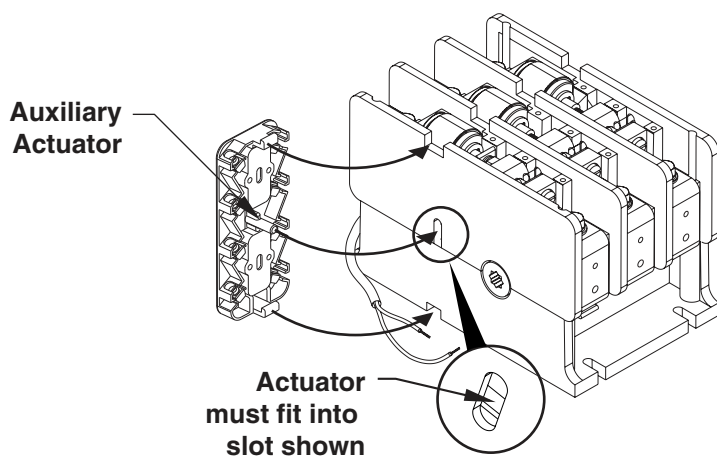

Figure 5
3. Install the new 1195C Auxiliary Contact (**Figures 5 and 6**). First, insert the lower tab into the recess on the side of the contactor base. With proper installation, the 1195C Auxiliary Actuator will fit into the hole in the slot in the side of the contactor housing. Using a thin rod or flat blade, lift the 1195C Auxiliary Actuator up as necessary to insert it into the slot mentioned.